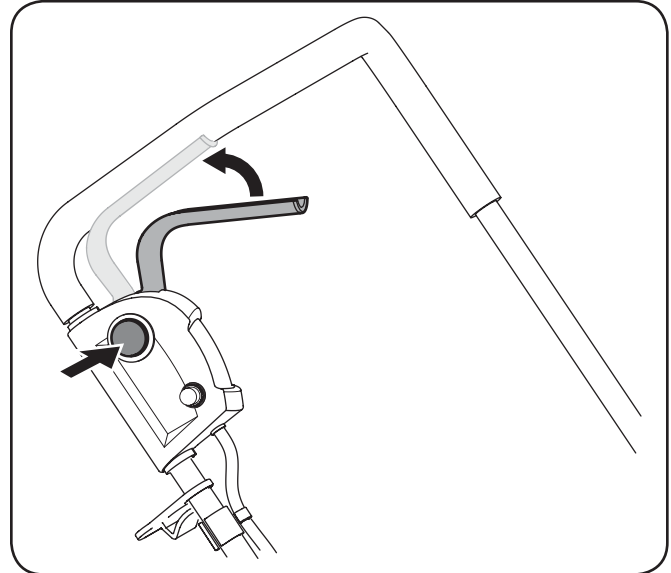

Figure 5-2
3. Press the (orange) starter button and hold it in. See Fig. 5-2.
4. While holding the starter button in, squeeze the motor/blade control lever against the upper handle to start the motor and engage the blade. See Fig. 5-2.